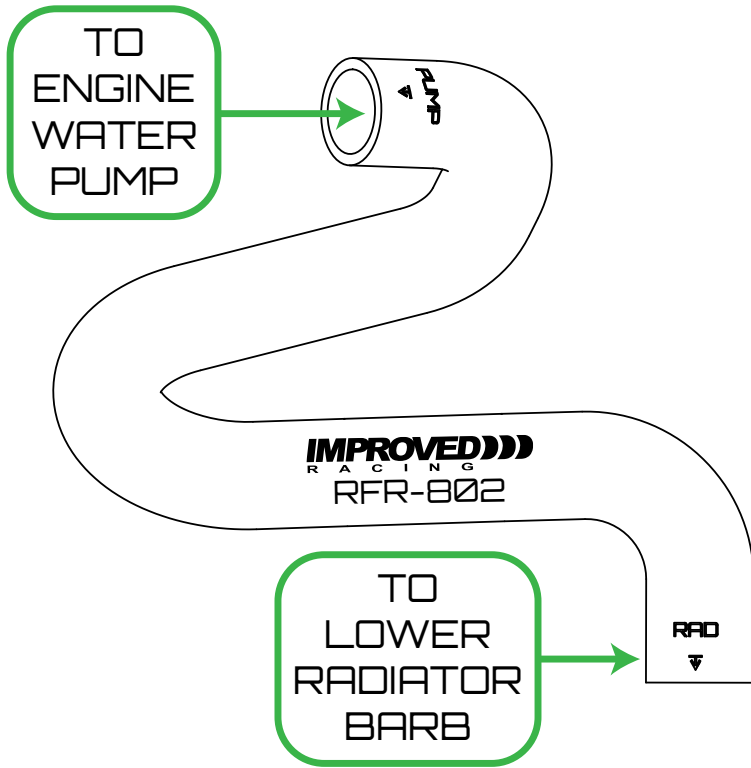

Figure 1 - Description of Connections for RFR-802
6. Install RFR-802 onto the radiator and water pump barbs as shown in Figure 1.